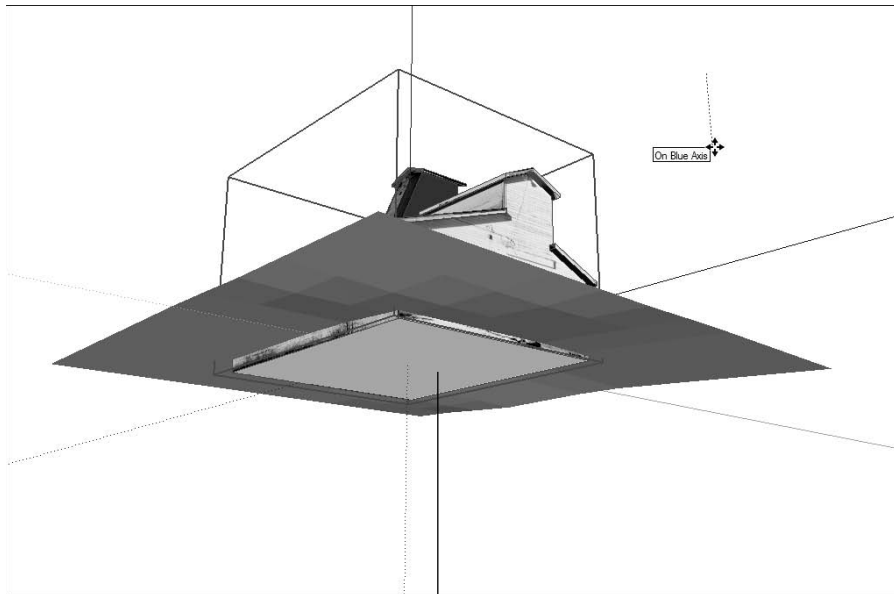

Figure 11-6:
5. Flip to a 3D view of your terrain (choose Tools⇨Google Earth⇨Toggle Terrain), and then move your building up or down until it's sitting properly (see Figure 11-6).